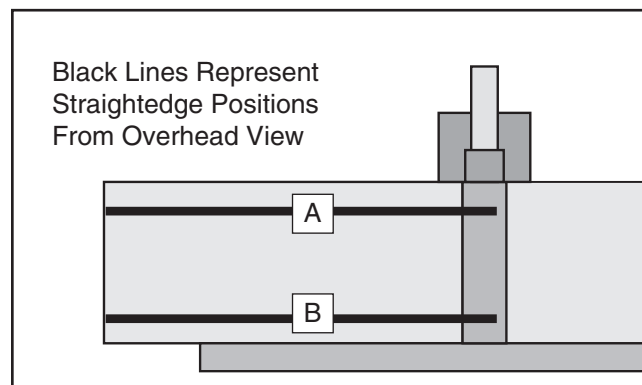

Figure 19. Straightedge positions A and B.
6. Move the straightedge to position **A**, as shown in **Figure 19**. Turn the jack screw nearest the fence clockwise $\frac{1}{8}$ of a turn until the end of the knife touches the straightedge.
7. Move the straightedge to position **B**, as shown in **Figure 19**. Turn the jack screw nearest the guard clockwise $\frac{1}{8}$ of a turn until the end of the knife touches the straightedge.